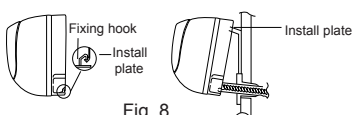

Fig. 8
- Hang the slots behind indoor unit onto the upper tabs of rear panel, then move the unit left and right to check if it is firm enough (as shown in fig. 8).